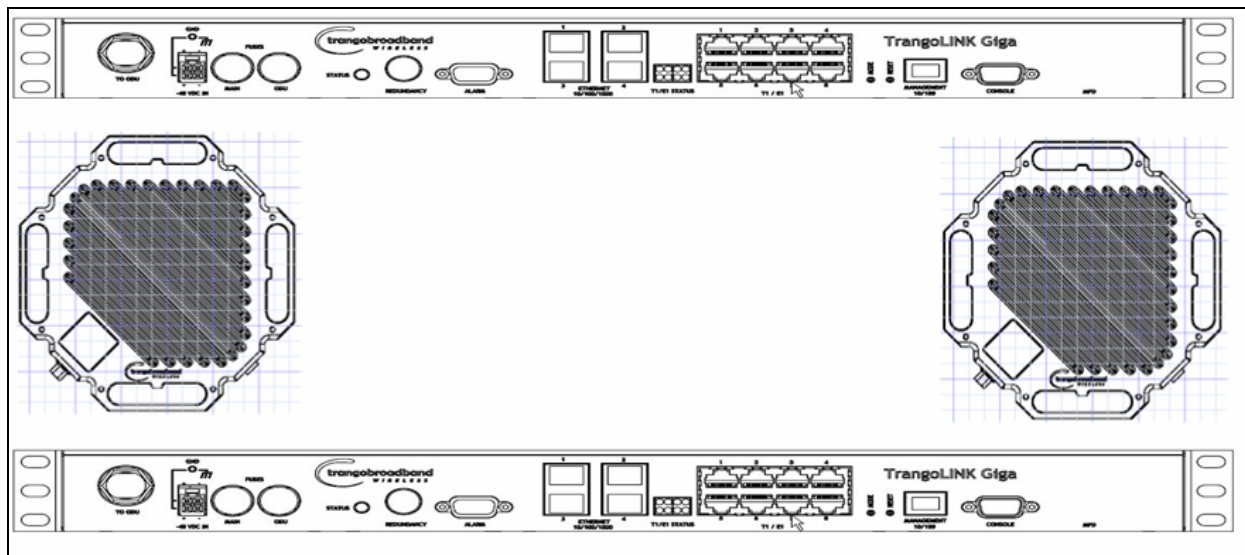

Figure 1: Components of a TrangoLINK Giga™ System
- Figure 1:** Components of a TrangoLINK Giga™ System 12